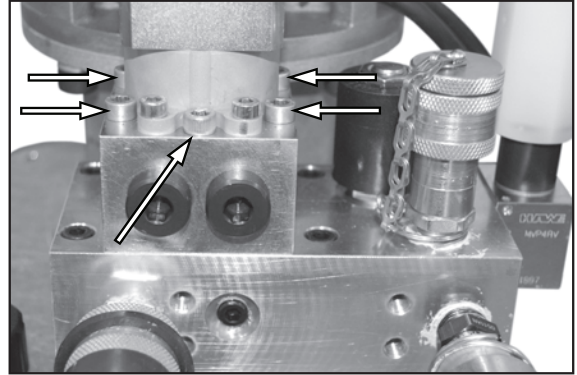

Figure 43.
2. See Figure 43. Loosen the five 2-position/4-way valve bolts. The bolts are captured and part of the assembly.